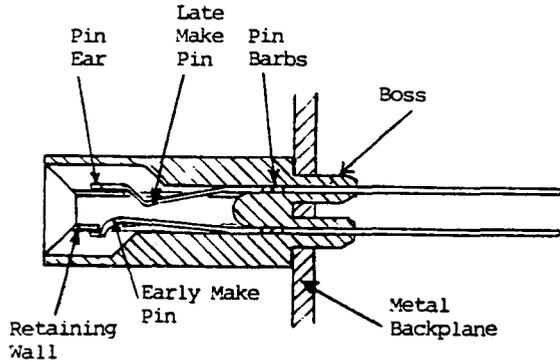

FIGURE 1
2.322 Fig. 1 shows a side view of the List 12 connector. The contact part of the "early make" pins are shaped such that when a plug-in unit is inserted into the connector, electrical contact is made with them first. As the board is pushed further into the connector, electrical contact is subsequently made
4.412 The contact retaining walls must be undamaged. Pin contacts are positioned correctly in the housing when pin "ears" are behind the housing retainer walls. See Figs. 1 and 6.
4.44 From front of the bay, slide the pin, properly oriented, into the appropriate slot in connector housing. Figs. 1 to 4 show proper orientation of pins in the housing. Push pin in far enough so that tip can be grasped with needle nose pliers from rear of bay.
4.45 From rear of bay, pull the pins straight into position in the housing with needle nose pliers. The ears of the pin contacts must be behind their respective retaining walls in the connector housing. See Figs. 1 and 6.